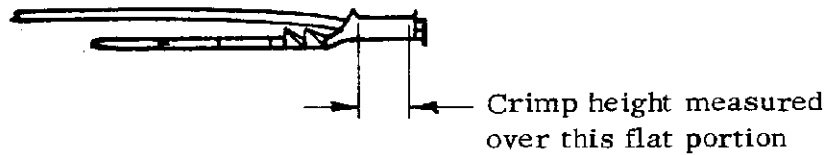

Figure 3
(2) Crimp heights shall be measured at the location shown in Figure 3.